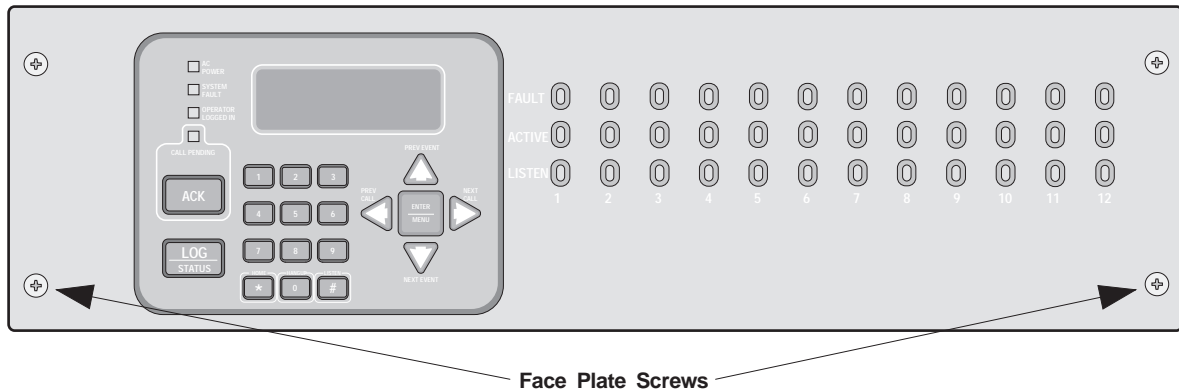

Figure 3-1 Model CS-5000 Front View
1. Open the CS-5000's front panel by unscrewing the four front plate retaining screws located on the front of the panel (Figure 3-1).
1. Remove the front panel of the CS-5000 receiver by loosening the front plate retaining screws (Figure 3-1).
5. Replace the front panel of the CS-5000 receiver by tightening the front plate retaining screws (Figure 3-1).
1. Remove the front plate by unscrewing the front plate retaining screws (Figure 3-1).